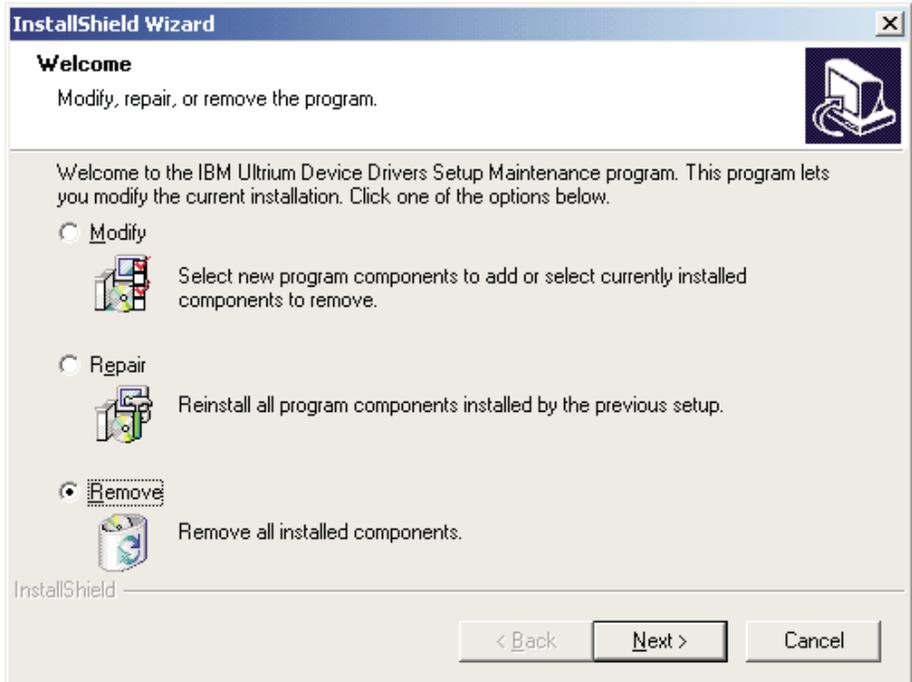

Figure 44. InstallShield Wizard Menu
9. The InstallShield Wizard window opens. Select **Remove**, then click **Next**. See Figure 44.